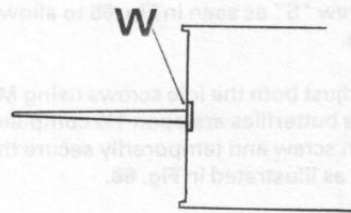

FIG. 70
14. Check that the pistons are free in the bearings and that both needles are adjusted using special tool 8353 - early models or MS80 - later types, so that the small plastic washer "W" is flush with the piston face, as seen in **Fig. 70**.